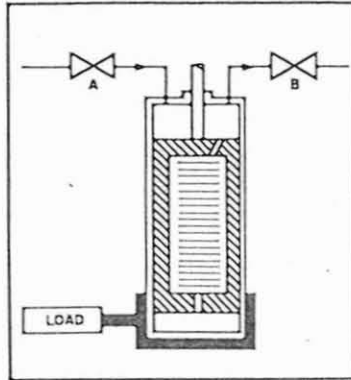

Figure 4 Improved Single Stage Refrigerator
- does so (6). The temperature drop (ΔT_r) is responsible for the refrigerating effect.
- e. Heat flows from the load through the cylinder walls, warming the gas to a temperature slightly (ΔT_c) below that at which it entered the cylinder (7).
- f. As the gas passes through the regenerator, it warms up (8) as it receives heat from the matrix, and the matrix is cooled (4) to (3).
- h. The low-pressure gas leaves through valve B at approximately room temperature (9).
- In the system of Figure 2, the piston would require a pressure seal and would have to be designed to withstand unbalanced forces. A more practical version of this cycle is shown in Figure 4. This system uses a double-ended cylinder and
The refrigerator shown in Figure 4 can achieve temperatures in the 30-77 K range. Since many of the applications of the CRYODYNE refrigerator are below that temperature, we can add a second, and even a third stage to produce temperatures below 10K.